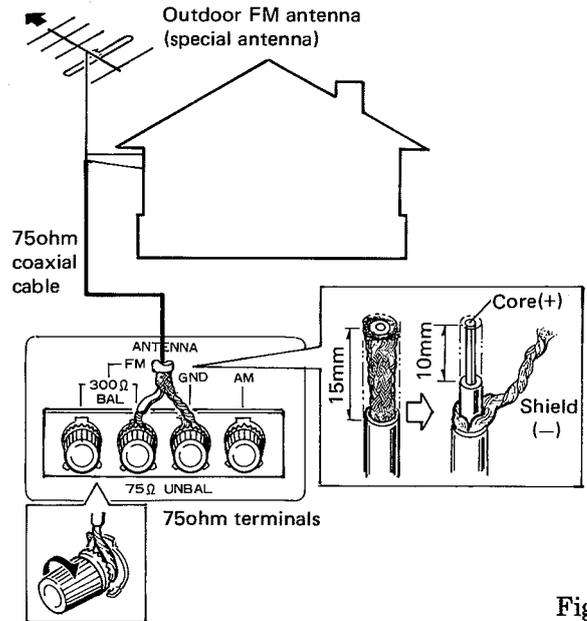

Fig. 6
**75ohm coaxial cable:** Recommended in locations where external noise is incurred due to street traffic, high voltage power lines or other conditions. Also employed if the distance between the antenna and CX-7000 is relatively great. Connect to the 75ohm UNBAL terminals as shown in Fig. 6.